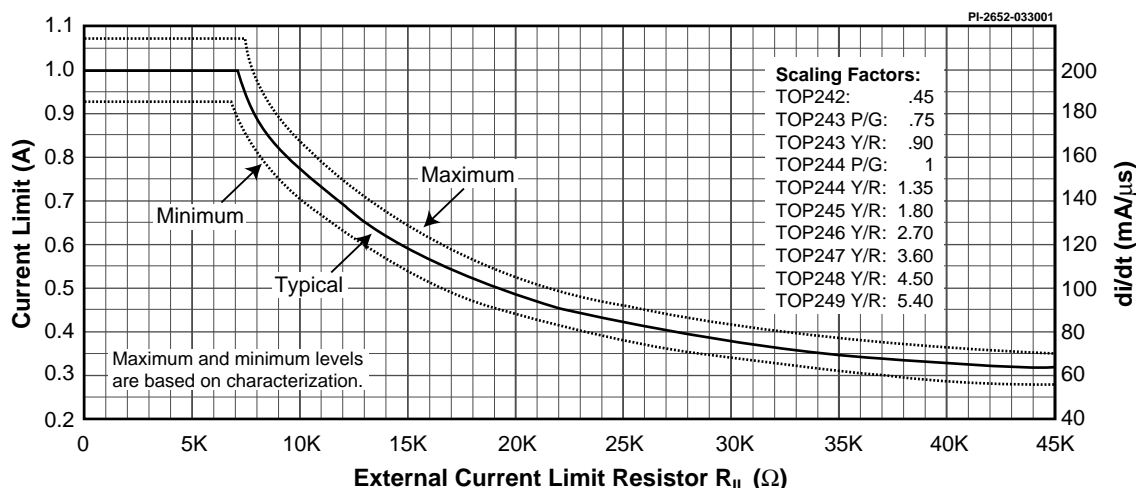

Figure 55. Current Limit vs. External Current Limit Resistance.
- C. For externally adjusted current limit values, please refer to Figure 55 (Current Limit vs. External Current Limit Resistance) in the Typical Performance Characteristics section.